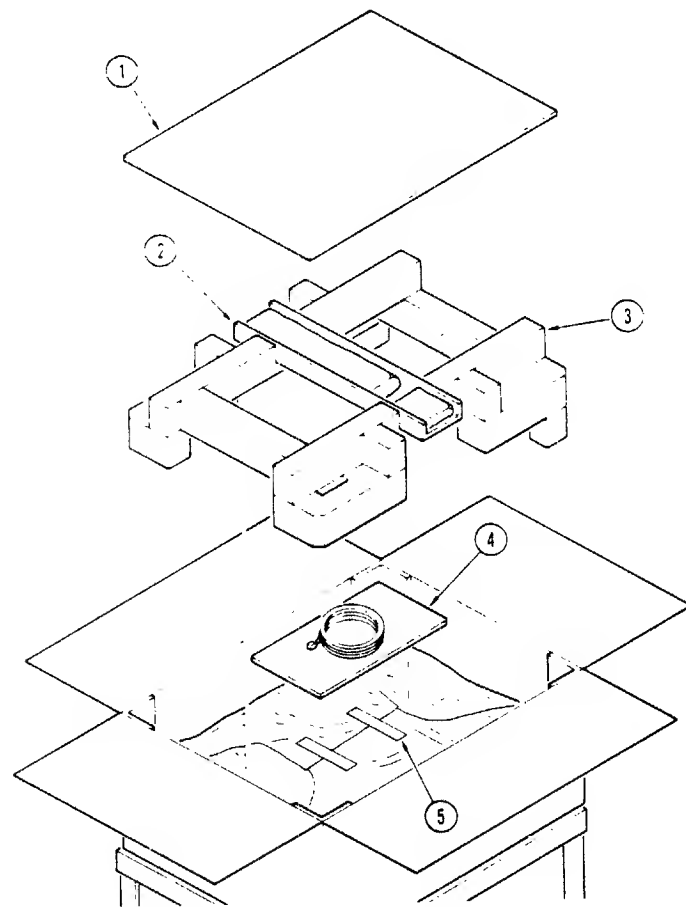

Figure 1.
9. Remove top pad (1). See Figure 1.
10. Remove slide kit (2) from the top foam insert (3). See Figure 1.
11. Remove the top foam insert (3). See Figure 1.
12. Remove power cord and manuals (4). See Figure 1.
13. Remove tape (5) from the bag. See Figure 1.